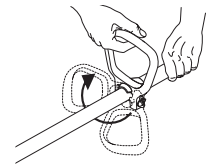

Fig. 6
1. Locate the wing nut on the D-Handle. Loosen the wing nut enough to loosen the D-Handle (Fig. 6).
2. Rotate the D-Handle to the upright position on the front side of the shaft housing (Fig. 6).